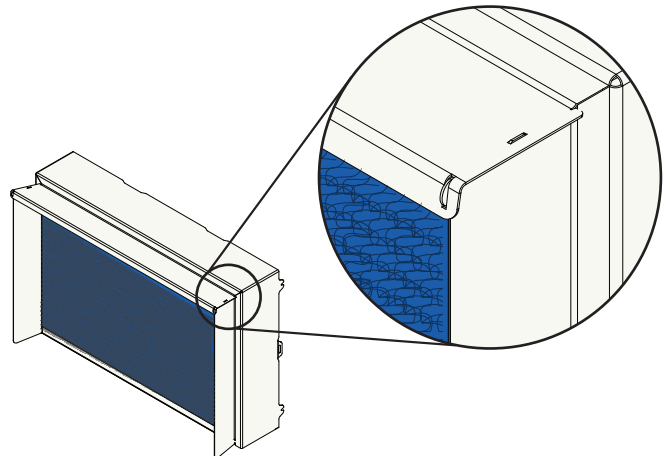

FIG. 3c
- c. Rotate the Right Vane (H) so that it is vertical and perpendicular to the Top Vane (G). Align and insert the two tabs of the Right Vane (H) into the two corresponding slots of the Top Vane (G). Press down firmly so that both components clip into position [FIG. 3c].
- d. Mirror Steps a-c for the Left Vane (F) on the other side of the Frame Assembly.